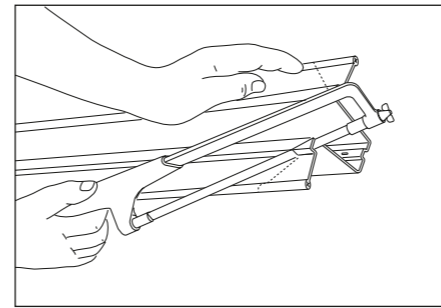

Fig. 5 - Make angled cut, if required
- 7 Trim top flanges of batten section to maintain angle of external corner of hip. If necessary, make a horizontal cut in walls of batten section, to enable it to fit over fascia upstand (Fig. 5).